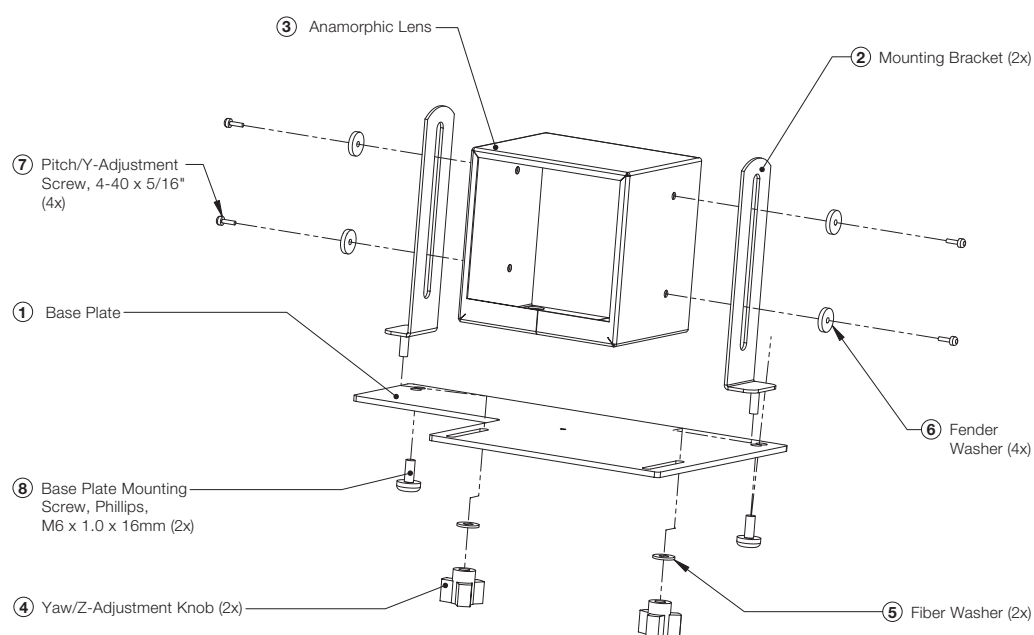

Figure 3-11. Anamorphic Lens Mounting Assembly - Exploded View
The Anamorphic lens mount kit consists of everything shown in Figure 3-11. If any items are missing or damaged, please contact your Vidikron dealer or Vidikron Customer Service at (888) 4VIDIKRON.